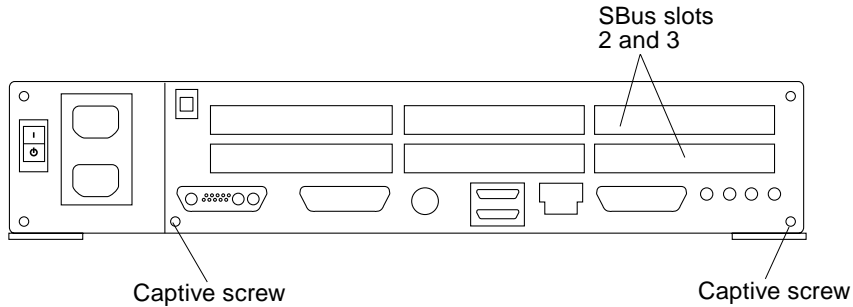

FIGURE 8-30 Back Panel SBus Slots and Captive Screws
5. Loosen the two captive screws on the back panel that secure the system board to the chassis (FIGURE 8-30).
- 4. Insert the front edge of the system board into the card guide. Lift the rear of the board slightly and slide it along the card guide until it is fully inserted (FIGURE 8-30).**
- 7. Tighten the two captive Phillips-head screws that secure the system board to the chassis rear (FIGURE 8-30).**